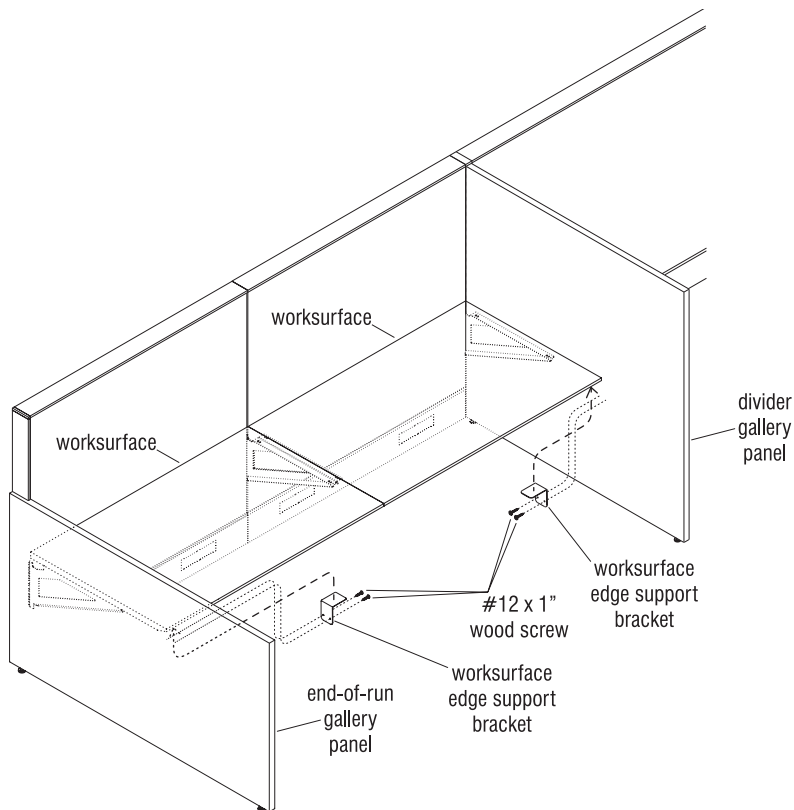

Figure 29
1. Position the worksurface edge support bracket under worksurface as illustrated and so it is not exposed. The side with the holes must go against the gallery panel and the non-hole side will face the underside of the worksurface (Figure 29).
2. Using the supplied #12 x 1" screws, attach the edge support bracket into the gallery panel, making sure it is tight to the underside of the worksurface and not exposed to the user side (Figure 29).